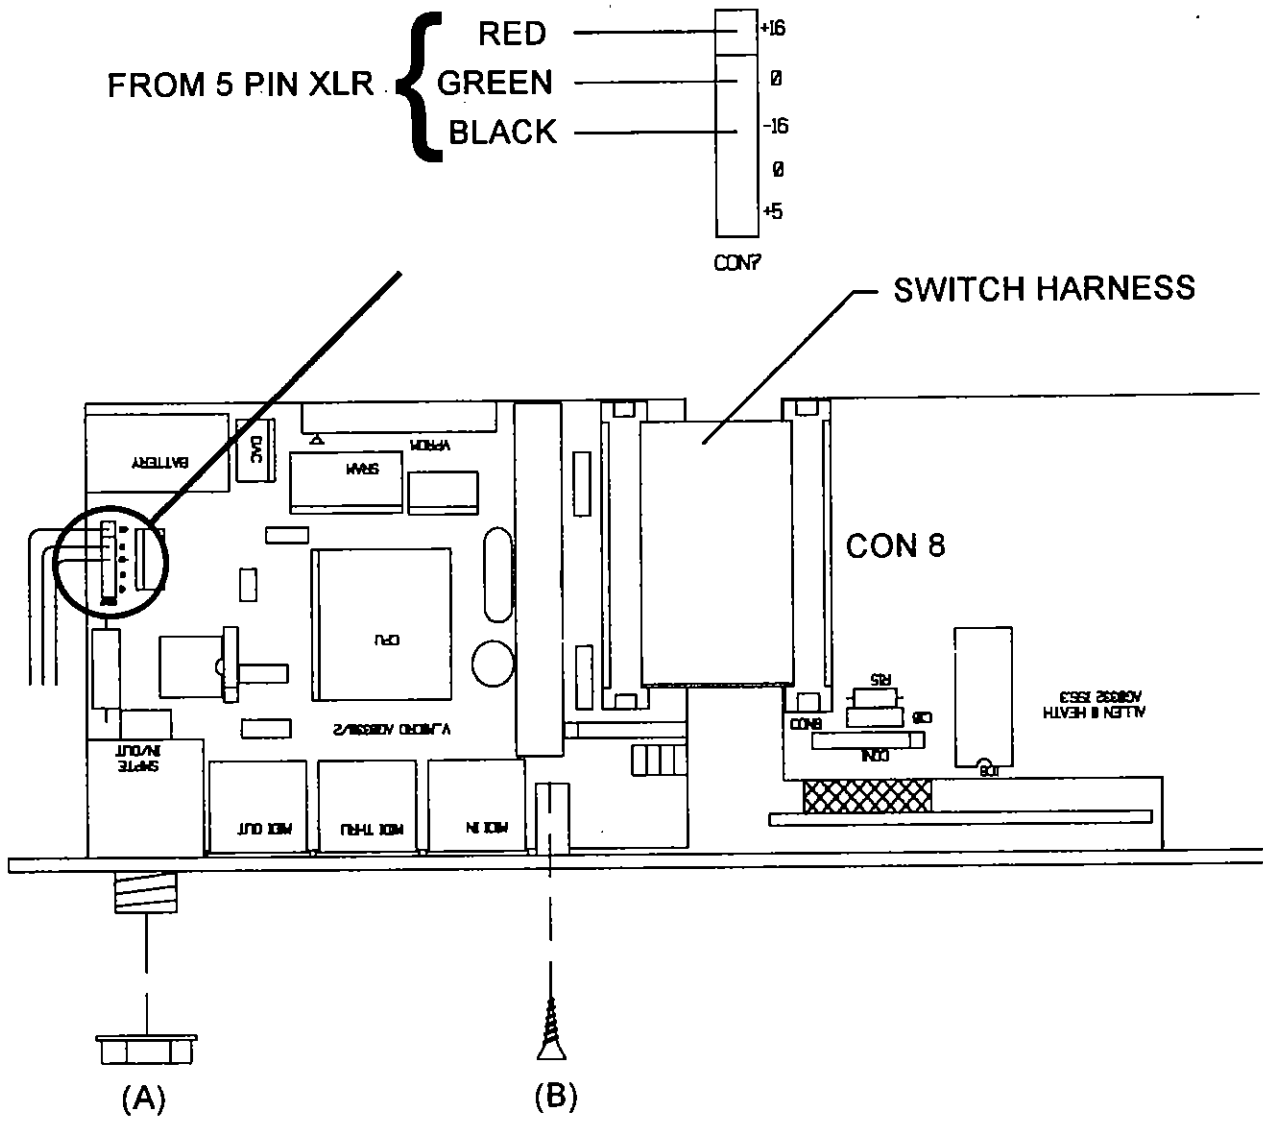

Fig. 13.
5. Unpack the V-Micro PCB (PCB No: AG0330) from the kit. Unscrew the jack nut from the jack socket on the PCB. Mount the PCB onto the front panel and secure it using the jack nut (A) and the 4AB x 3/16 black countersunk screw (B) provided. Plug the other end of the switch harness into the Keyboard PCB connector CON8; *see Fig. 13.*
7. Solder the red & green wires from the 5-pin XLR power connector onto the V-Micro PCB holes labelled CON7 as shown in *see Fig. 13.*